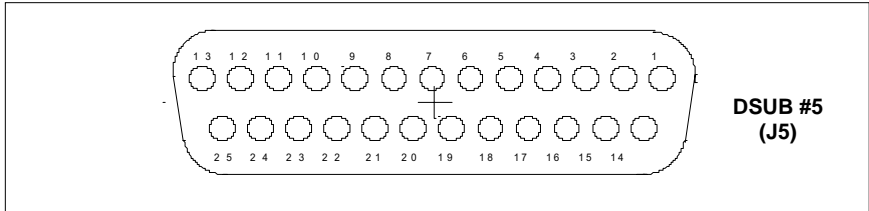

**FIGURE 9.**
**NETWORKING:** As many as 8 DS-16 units can be networked together in a ring (version 5.05 or higher). The network must be operated with a PC, which must initiate and terminate the ring. The DS-Series uses standard RS-232C communications. Information sent from the PC host (i.e., setup configurations) travels around the network and is passed through each unit. The unit for which a command is intended will read the command and others will ignore it. Each channel must be assigned a unique channel address. For the user to access a channel, the specific channel must be addressed. **Figure 9** is an example of a network ring.